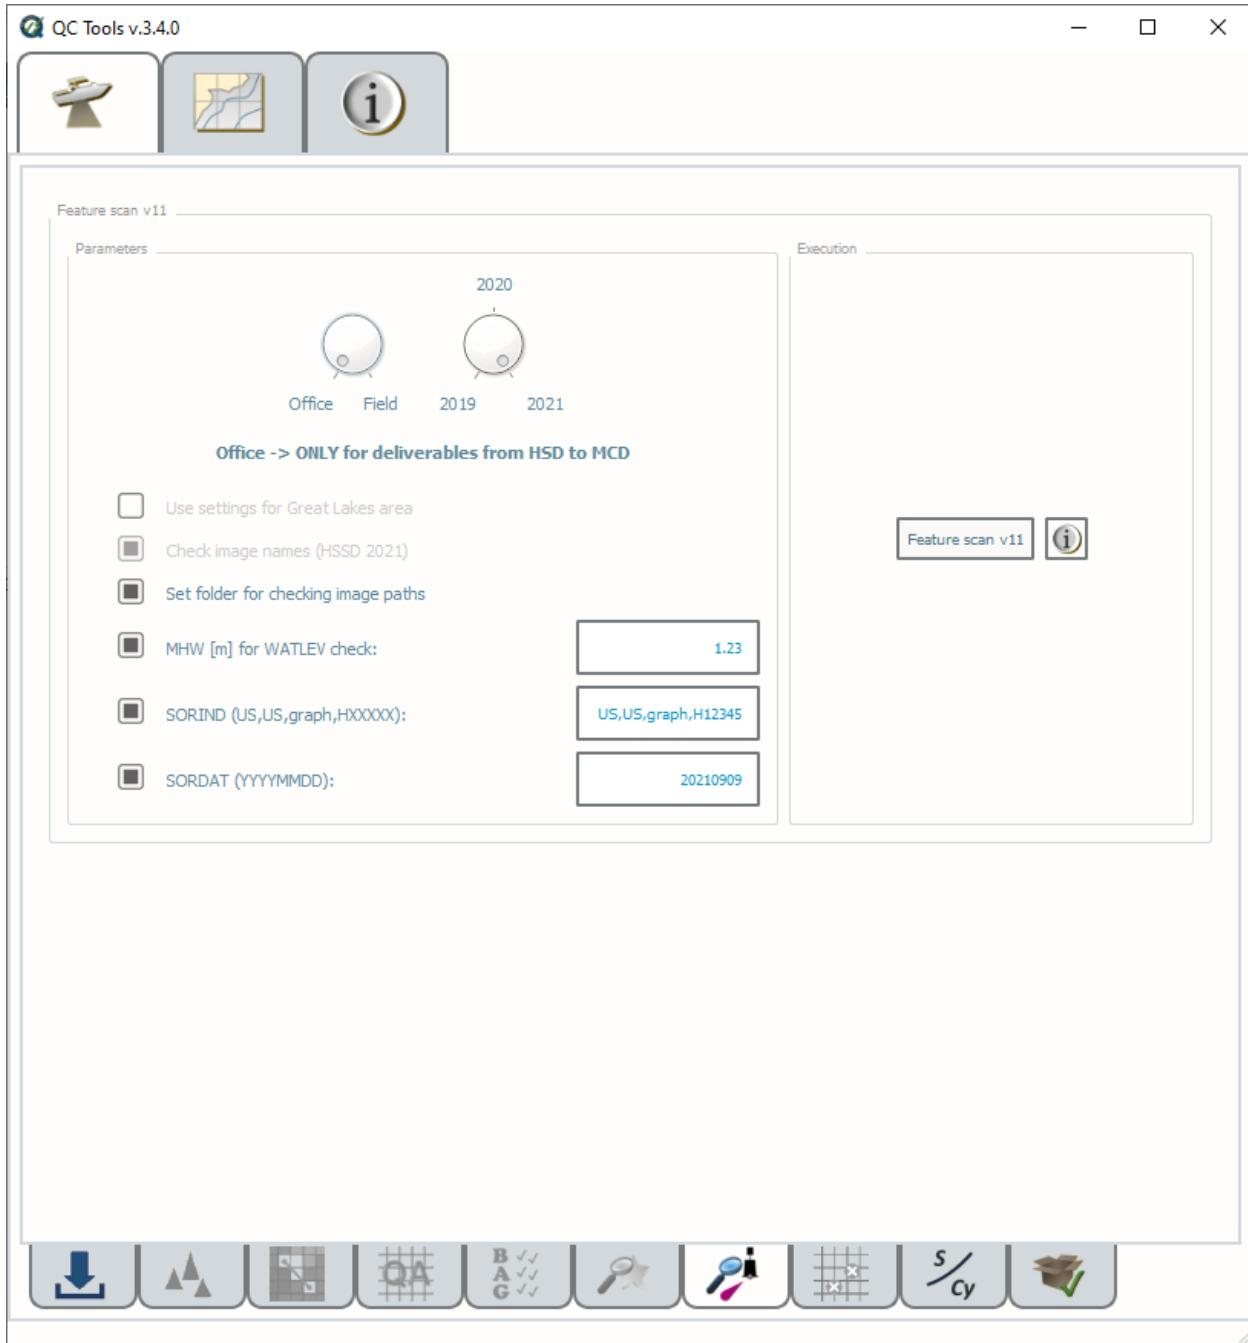

Fig. 2.44: The Scan features tab.
- Select the **Scan features** tab (Fig. 2.44) on the bottom of the QC Tools interface.